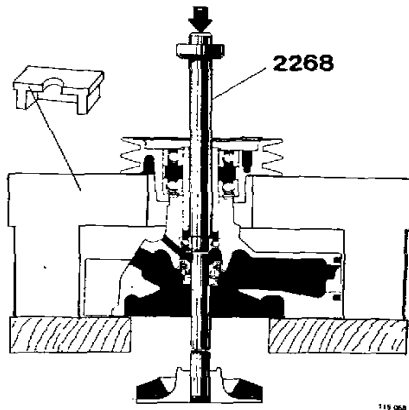

Fig. 195. Removing the impeller, bearing and seal
4. Use drift 2268 to press out impeller, shaft, seal, deflector ring and rear bearing in one operation (fig. 195).